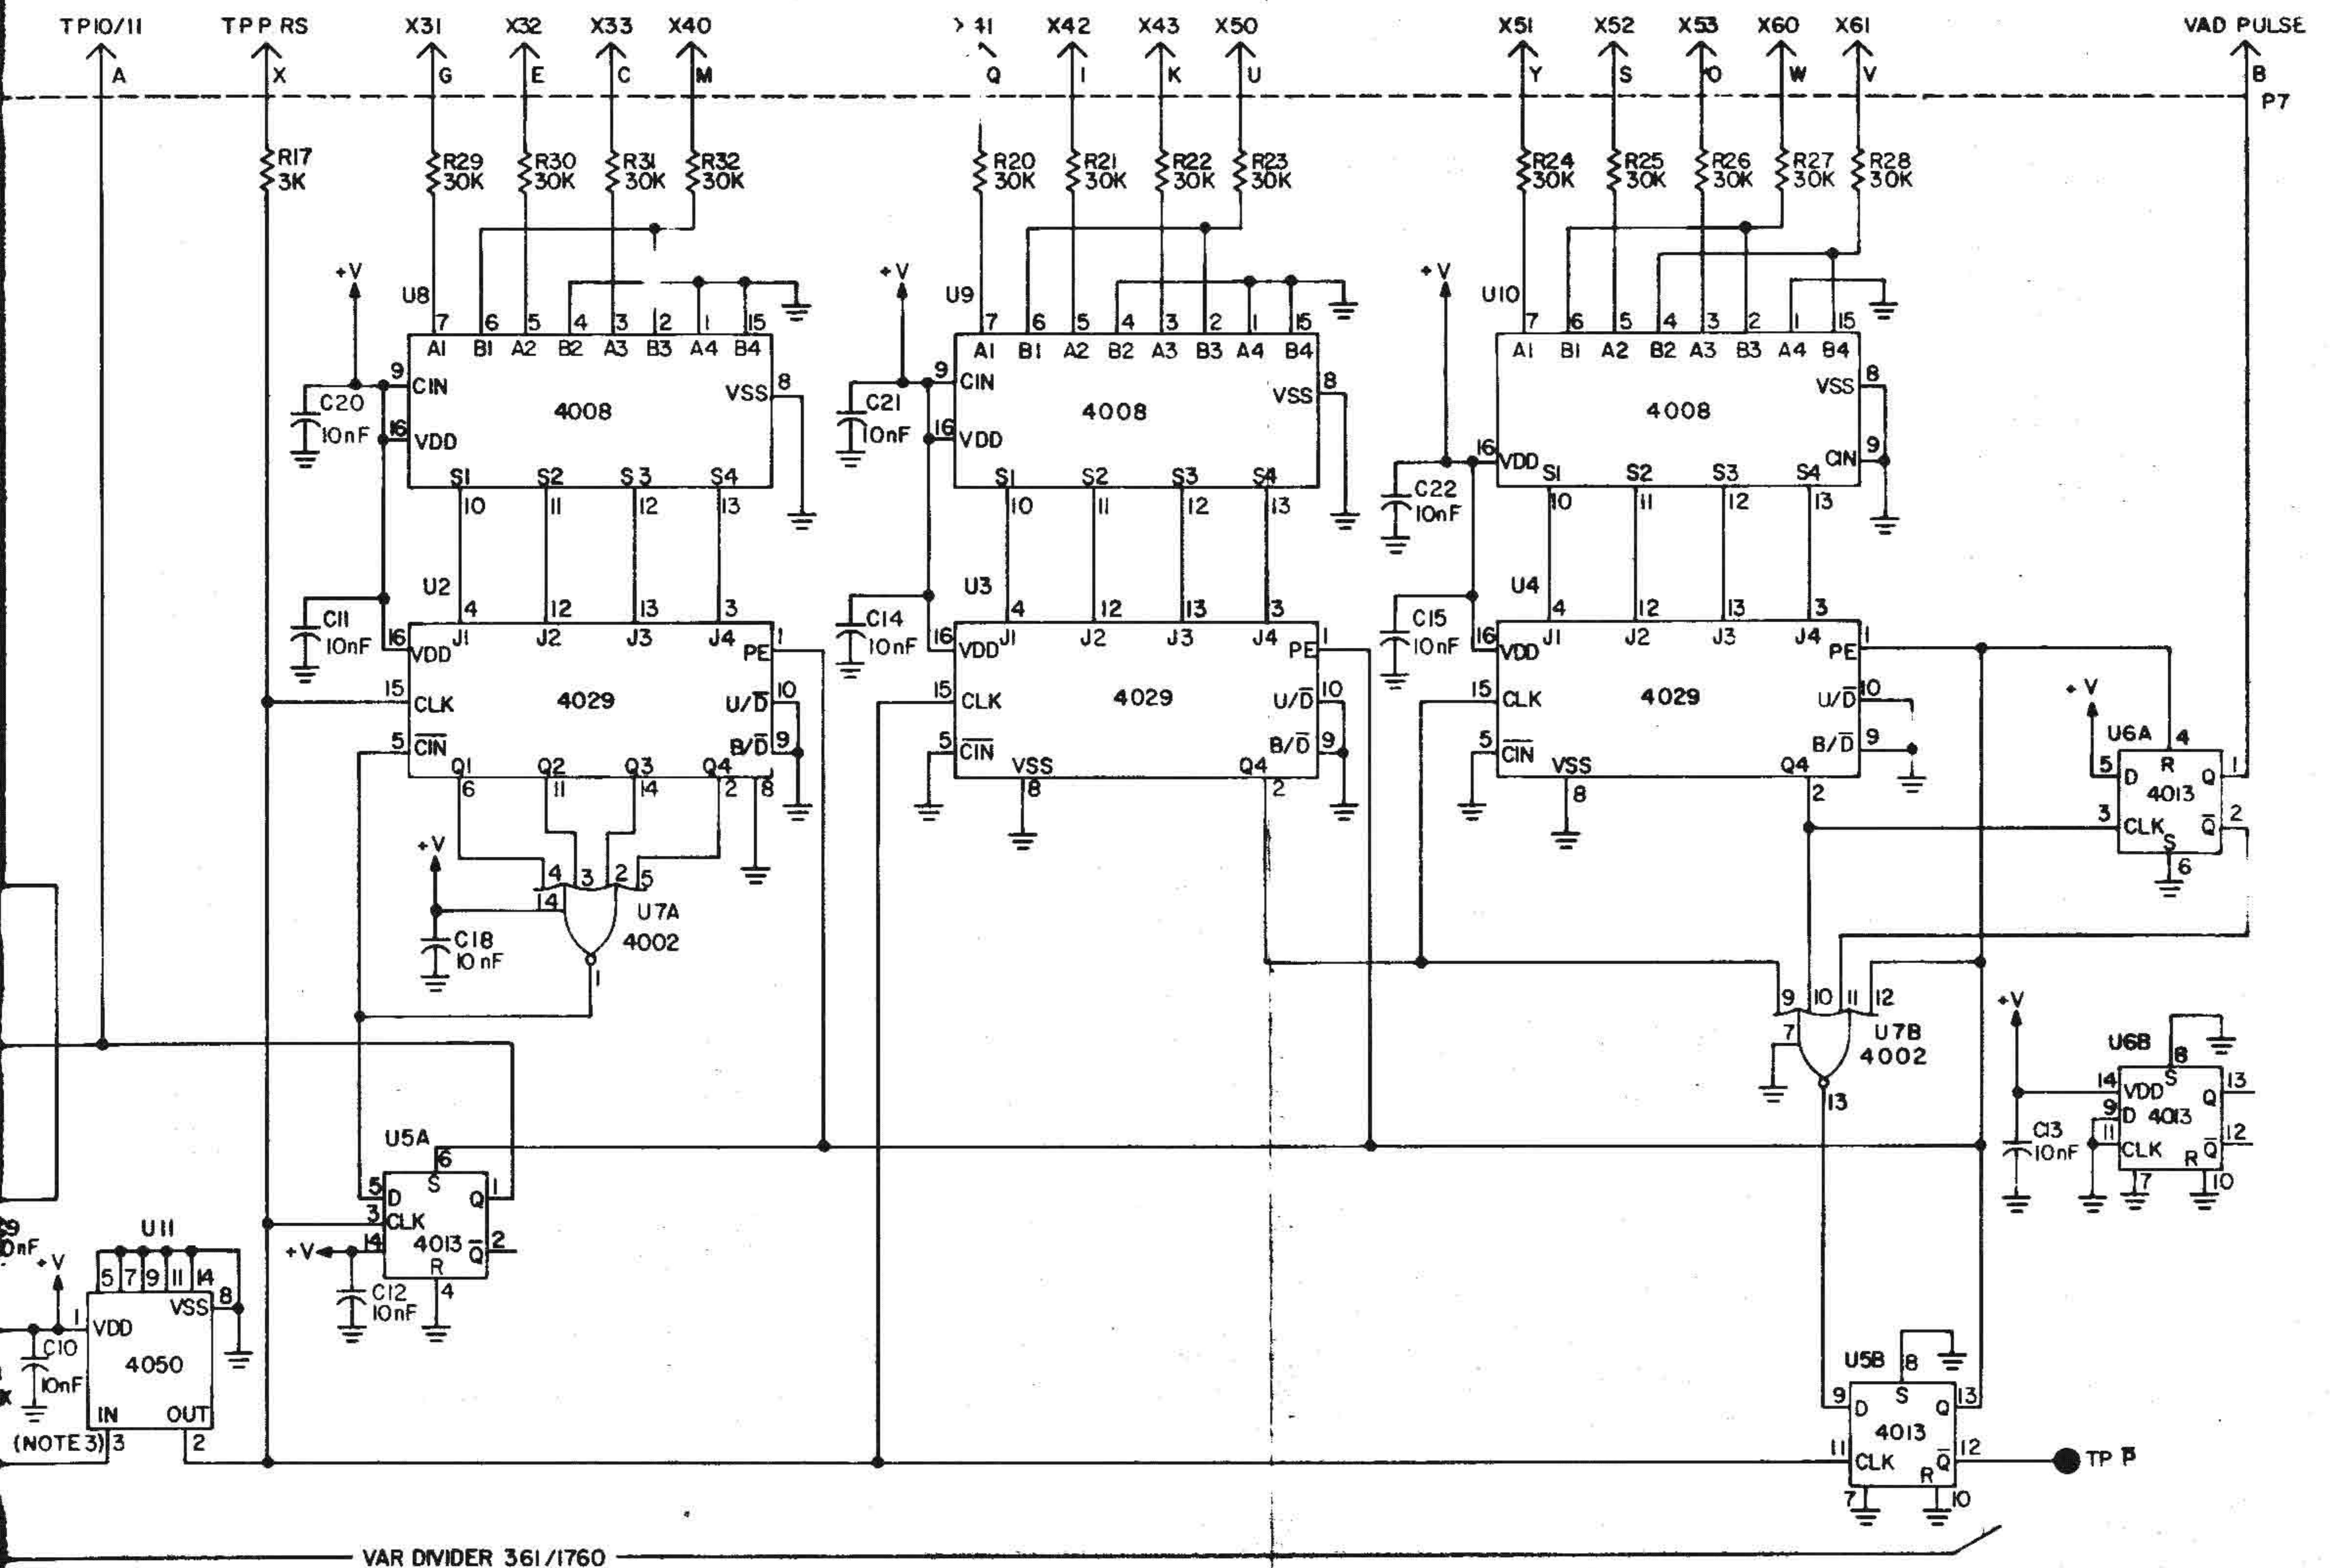

Fig. 2-63. Module VAD 1A3A2, schematic circuit diagram
b. Functional Analysis of Divider Circuit (fig. 2-63).
(1) Referring to fig. 2-63, the prescaler is identified as the integrated circuit U1.